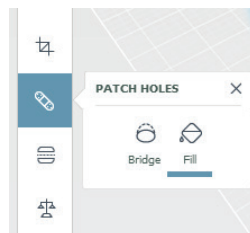
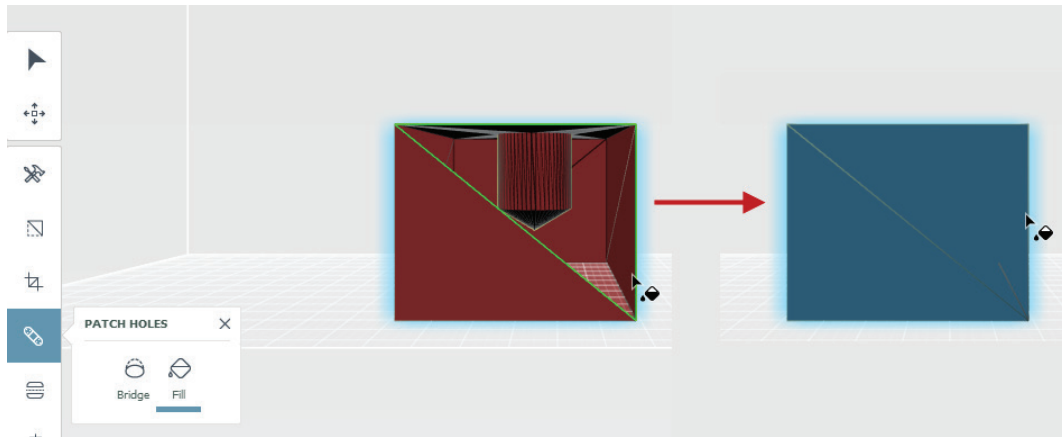

Figure-52. PATCH HOLES toolbox
Figure-53. Filling open region
- Click on the **Patch Holes** tool to close open areas of the model. The **PATCH HOLES** toolbox will be displayed; refer to Figure-52. Click on the **Bridge** button to create boundaries for filling. Click on the **Fill** button after selecting the open region to fill it; refer to Figure-53.